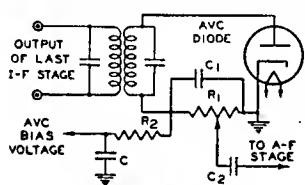
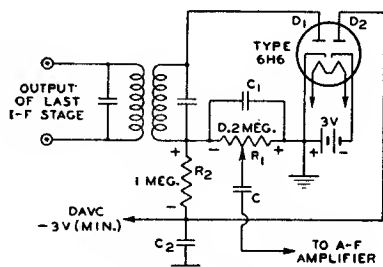
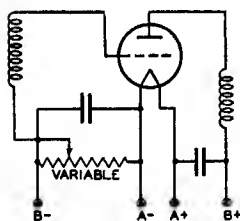
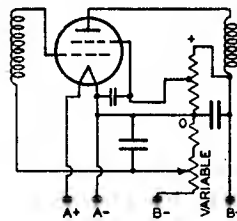

Fig. 41
Fig. 42
Fig. 55
Fig. 57
The avc circuit reduces the r-f and i-f gain for a strong signal usually by increasing the negative bias of the r-f, i-f, and frequency-mixer stages when the signal increases. A simple avc circuit is shown in Fig. 41. On each positive half-cycle of the signal voltage, when the diode plate is positive with respect to the cathode, the diode passes current. Because of the flow of diode current through R_1 , there is a voltage drop across R_1 which makes the left end of R_1 negative with respect to ground. This voltage drop across R_1 is applied, through the filter R_2 and C , as negative bias on the grids of the preceding stages. Then, when the signal strength at the antenna increases, the signal applied to the avc diode increases, the voltage drop across R_1 increases, the negative bias voltage applied to the r-f and i-f stages increases, and the gain of the r-f and i-f stages is decreased. Thus the increase in signal strength at the antenna does not produce as much increase in the output of the last i-f stage as it would produce without avc. When the signal strength at the antenna decreases from a previous steady value, the avc circuit acts, of course, in the reverse direction. Applying less negative bias, permitting the r-f and i-f gain to increase, and thus reducing the decrease in the signal output of the last i-f stage. In this way, when the signal strength at the antenna changes, the avc circuit acts to prevent change in the output of the last i-f stage, and thus acts to prevent change in loudspeaker volume.
In the circuit shown in Fig. 41, a certain amount of avc negative bias is applied to the preceding stages on a weak signal. Since it may be desirable to maintain the receiver's r-f and i-f gain at the maximum possible value for a weak signal, avc circuits are designed in some cases to apply no avc bias until the signal strength exceeds a certain value. These avc circuits are known as delayed avc, or, dvc circuits. A dvc circuit is shown in Fig. 42. In this circuit, the diode section D_1 of the 6H6 acts as detector and avc diode. R_1 is the diode load resistor and R_2 and C_1 are the avc filter. Because the cathode of diode D_2 is returned through a fixed supply of -3 volts to the cathode of D_1 , a d-c current flows through R_1 and R_2 in series with D_2 . The voltage drop caused by this current places the avc lead at approximately -3 volts (less the negligible drop through D_2). When the average amplitude of the rectified signal developed across R_1 does not exceed 3 volts, the avc lead remains at -3 volts. Hence, for signals not strong enough to develop 3 volts across R_1 , the bias applied to the controlled tubes stays constant at a value giving high sensitivity. However, when the average amplitude of rectified signal voltage across R_1 exceeds 3 volts, the plate of diode D_2 becomes more negative than the cathode of D_2 and current flow in diode D_2 ceases. The potential of the avc lead is then controlled by the voltage developed across R_1 . Therefore, with further increase in signal strength, the avc circuit applies an increasing avc bias voltage to the controlled stages. In this way, the circuit regulates the receiver's gain for strong signals, but permits the gain to stay constant at a maximum value for weak signals.
It can be seen in Fig. 42 that a portion of the -3 volts delay voltage is applied to the plate of the detector diode D_1 , this portion being approximately equal to $R_1/(R_1 + R_2)$ times -3 volts. Hence, with the circuit constants as shown, the detector plate is made negative with respect to its cathode by approximately one-half volt. However, this voltage does not interfere with detection because it is not large enough to prevent current flow in the tube.
Grid-bias variation for the r-f and i-f amplifier stages is a convenient and frequently used method for controlling receiver volume. The variable voltage supplied to the grid may be obtained: (1) from a variable cathode resistor as shown in Figs. 55 and 56; (2) from a bleeder circuit by means of a potentiometer as shown in Fig. 57 or (3) from a bleeder circuit in which the bleeder current is varied by a tube used for automatic volume control. The latter circuit is shown in Fig. 41. In all cases it is important that the control be arranged so that at no time will the bias be less than the recommended grid-bias voltage for the particular tubes used. This requirement can be met by providing a fixed stop on the potentiometer, by connecting a fixed resistance in series with the variable resistance, or by connecting a fixed cathode resistance in series with the variable resistance used for regulation.